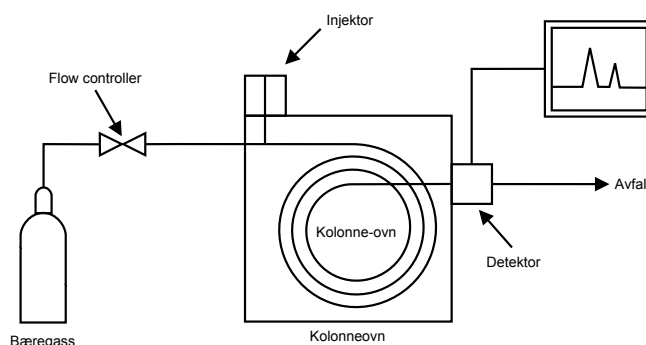

Figure 29.4a. Schematic of gas chromatograph. (Credit: Image by Offnfopt, PD)
In early 1900s, Gas chromatography (GC) was discovered by Mikhail Semenovich Tsvett as a separation technique to separate compounds. Among the various types of gas chromatography, gas-liquid chromatography is the method most commonly used to separate organic compounds. The combination of gas chromatography and mass spectrometry is an invaluable tool in the identification of molecules. A typical gas chromatograph consists of an injection port, a column, carrier gas flow control equipment, ovens and heaters for maintaining temperatures of the injection port and the column, an integrator chart recorder and a detector (Figure 29.4a.). Often a mass spectrometer is used as the detector.